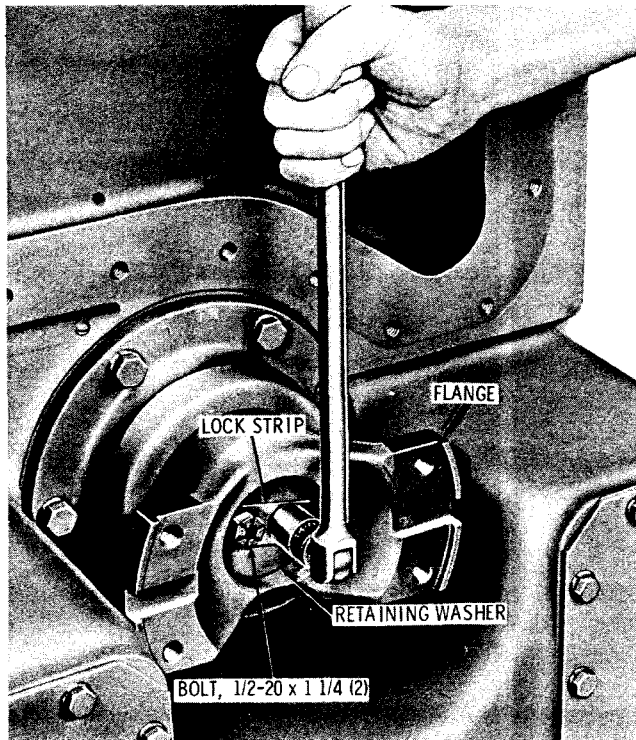

Fig. 7-9. Installing front output flange bolts
(28) Establish the shim pack thickness at the end of the output shaft as in paragraph 4-8b. Install the output flange, shims, retaining washer, lock strip, and two 1/2-20 x 1 1/4-inch bolts (fig. 7-9). Tighten the bolts to 96 to 115 pound feet torque. Bend a corner of the lock strip against each bolt head.
(29) On transmissions having only a rear output, install items 1 through 8 (foldout 12) as outlined in (24) and (25), above.